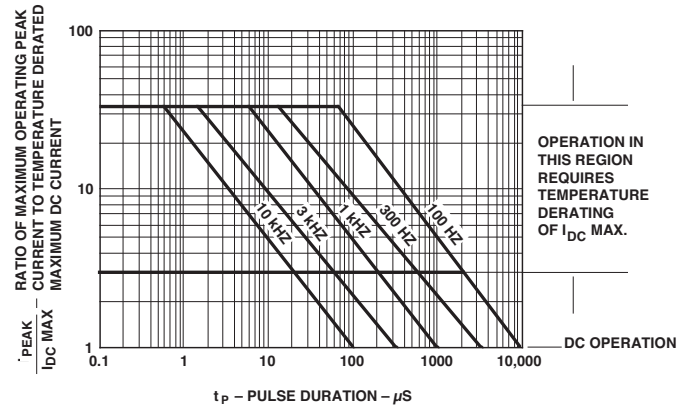

Figure 7. Maximum allowed peak current vs. pulse duration – Green.
3. See Figure 7 to establish pulsed conditions.